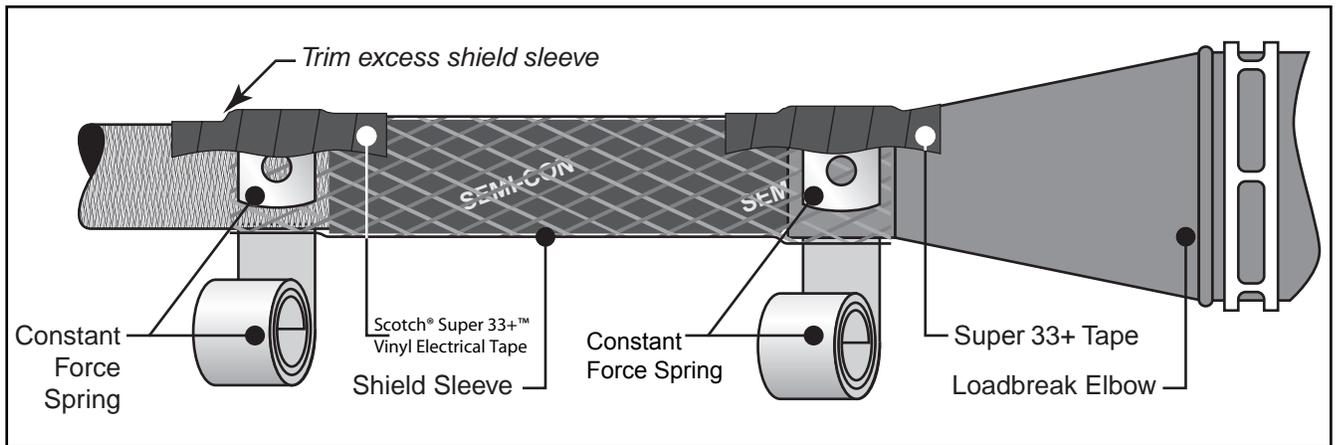

Figure 13
- 7.1 Slide expanded shield sleeve 1" (25 mm) onto base of elbow and secure with a constant force spring at 1/4" (6 mm) from bottom of elbow, as shown. Apply 2 wraps of Scotch® Super 33+™ Vinyl Electrical Tape over the spring and end of shield sleeve. (Figure 13.)
- 7.2 Pull loose end of shield sleeve to form it against previously applied semi-conducting cold shrink tube (step 3.2). Secure shield sleeve to cable metallic shield at base of semi-conducting tube with constant force spring, as shown. (Figure 13.)
- 7.3 Trim off excess shield sleeve and discard. Apply 2 wraps of Super 33+ Tape over spring and end of shield sleeve. (Figure 13.)